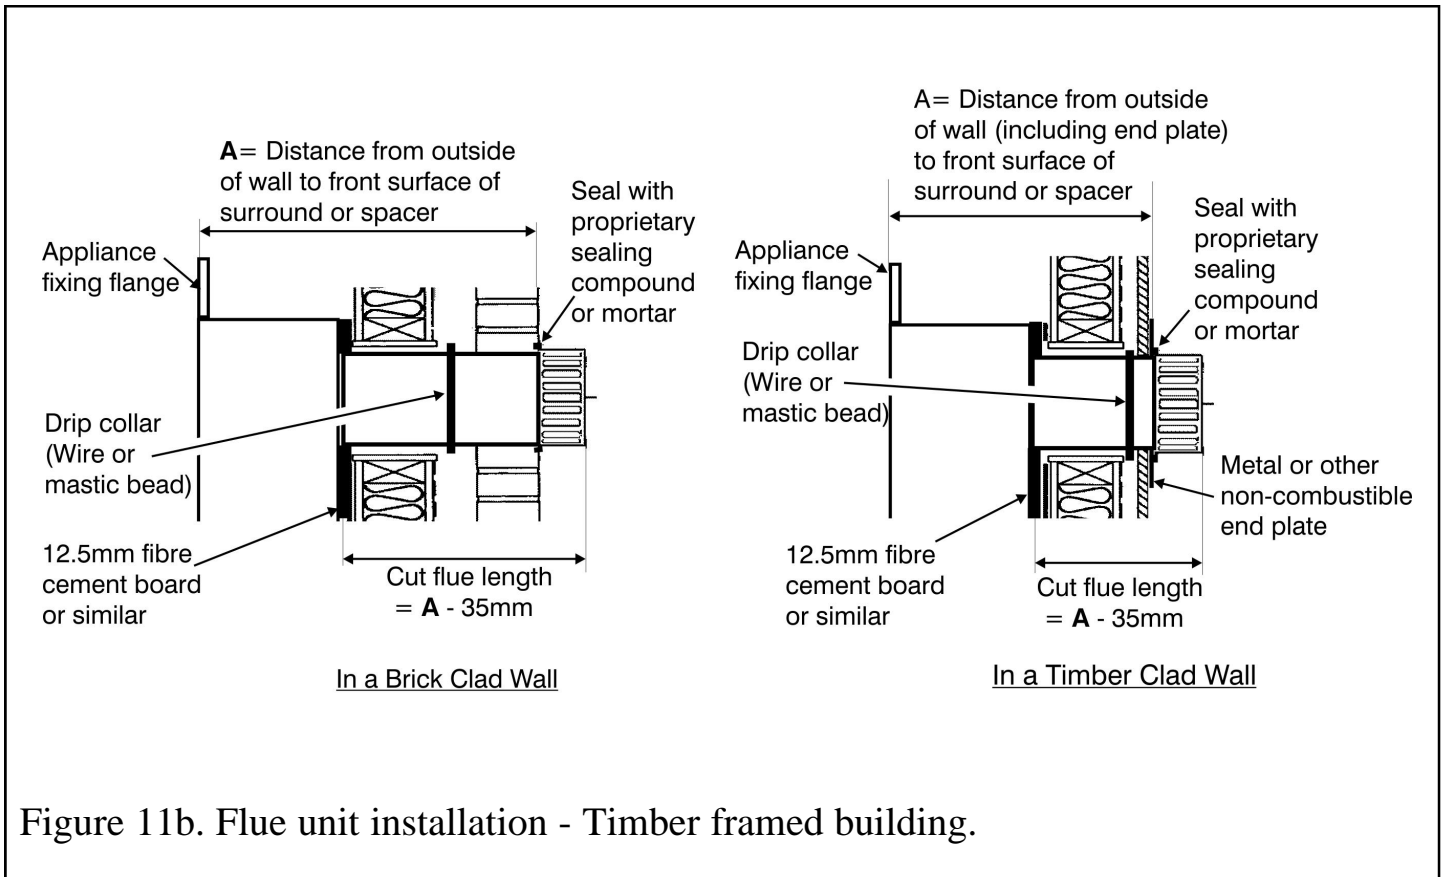

Figure 11b. Flue unit installation - Timber framed building.
- Timber frame buildings: Offer the fire complete with flue unit through the insulating sheet (mentioned in section 7.3). Fit a drip collar round the flue positioned so that it will be located in the centre of the wall cavity (See figure 11b). The drip collar can be made by wrapping a non-corrosive wire round the flue or moulding a bead of mastic round the flue.
- **Timber frame building with combustible outer leaf (e.g. shiplap boarding):** A metal or other non-combustible end plate must be fitted on the outside of the wall. The plate must be concentric with the flue and at least 254mm (10in) square or diameter (See figure 11b).